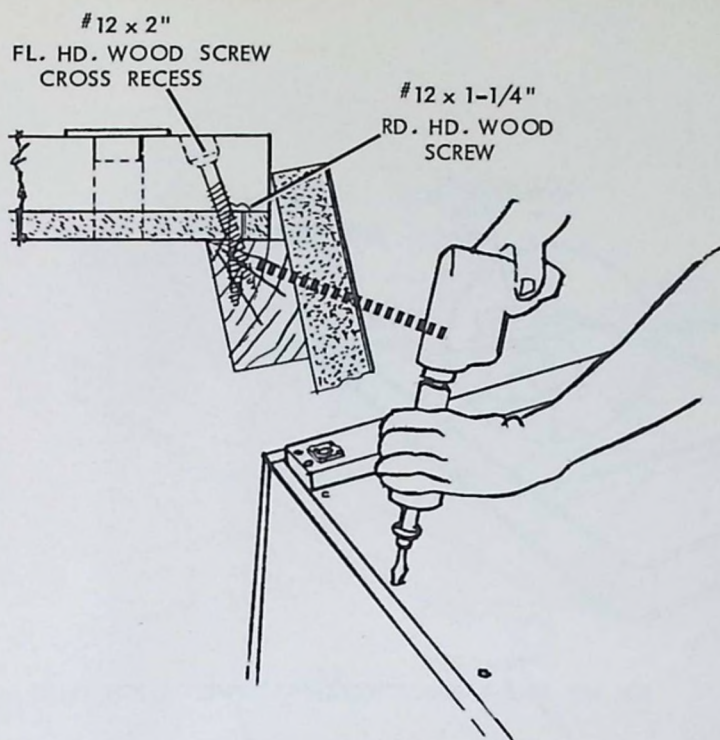

FIGURE 10
13. With bottom base panel in place, attach using the #12 x 2" wood screws at each wood cleat on the bottom panel. (Figure 10)
14. Use the #12 x 1-1/4" wood screws at each hole location in between the wood cleats. (Figure 10)